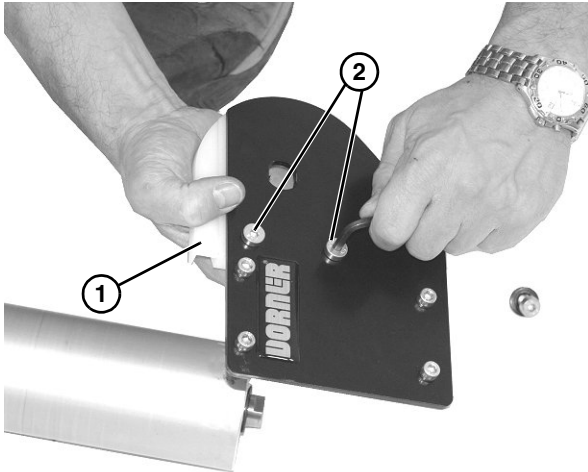

Figure 54
7. Check idler terminal assembly (**Figure 54, item 1**) for wear. If worn, remove two low head cap screws (**Figure 54, item 2**) and replace.